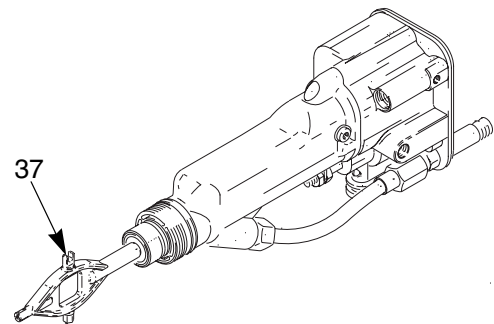

Fig. 24. Seat Housing Replacement
3. Remove the seat housing (5) with the tool (37) provided. See FIG. 24..
5. Install the seat housing (5) with the tool (14) provided. Tighten until snug, then 1/4 turn more; do not overtighten. See FIG. 24..